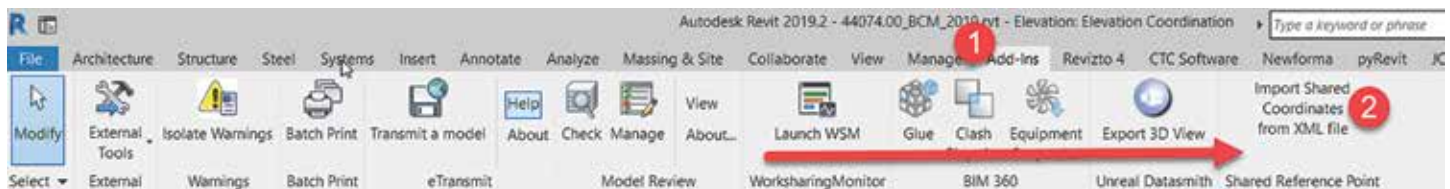

Figure 2
10. Use the “shared reference point” tool located on the “add-ins” tab to import the shared coordinates from the XML file (Figure 2).